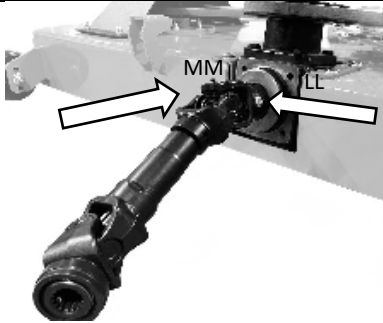

Figure 4C
4. Attach the PTO (item 12) to the mower deck and secure with a bolt LL and nut MM (figure 4c).